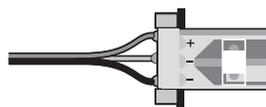

Figure 4
3. Connect the supply connector to the end of the LED board (observe polarity) and close the fastener (Fig. 4).